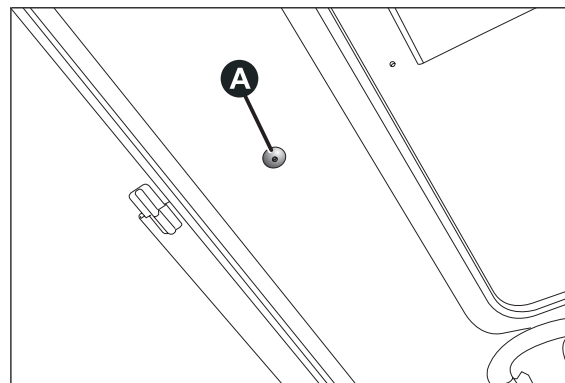

fig. 43
- ☐ for manual activation remove the protective cap A fig. 43 from its housing which is located on the internal covering in front of the sun blind
- ☐ insert the key provided into the housing A fig. 43 and turn it clockwise to open the roof or anticlockwise to close the roof.